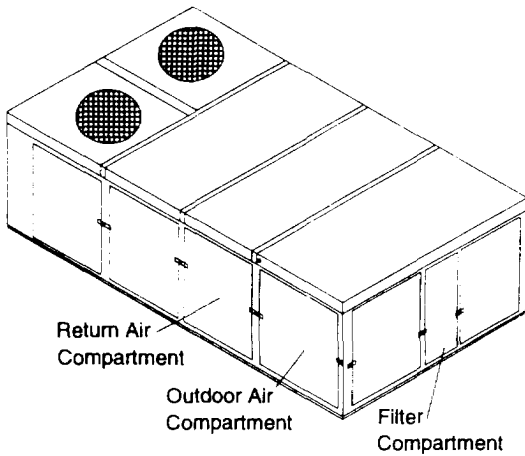

Figure 1: Rooftop Unit
1. Remove the three access panels (two OA and one RA shown in Figure 1) by using a 7/16 inch hex socket to loosen the screws securing the rotating latches and a 5/16 inch hex socket to remove the four screws on the bottom of each panel.